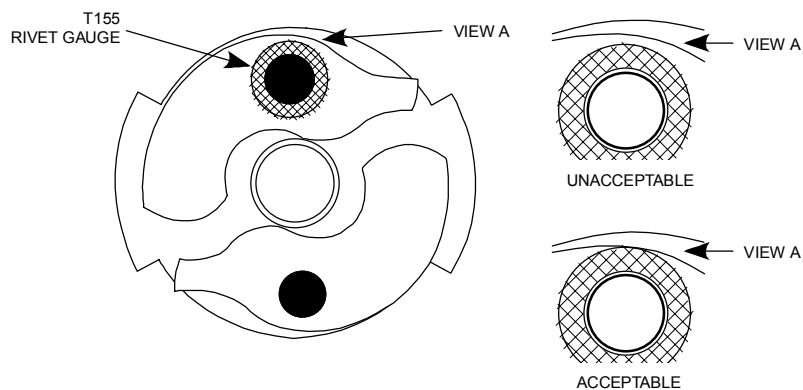

Figure 8.3A
1. Using acceptable procedures, inspect the impulse coupling shell for cracks, rust or signs of corrosion. None of these conditions are acceptable. Replace impulse coupling (5) as necessary.
2. Inspect the impulse coupling hub for cracks, rust, or signs of corrosion. None of these conditions are acceptable. Minor cleaning to remove surface rust is acceptable. Replace impulse coupling (5) as necessary.
3. Inspect the hub shaft and keyway for deformation or damage. Replace impulse coupling (5) as necessary.
4. Inspect impulse coupling pawls. If the latching end that contacts the stop pin in the magneto frame is rounded, peened, or excessively worn, replace the impulse coupling (5).
5. Inspect pawl retaining rivets. If the rivets are loose or show indications of movement, replace the impulse coupling (5).
6. Install the T155 Rivet Gauge over the rivet head. (See Figure 8.3A.)
9. If the edge of the pawl is visible beyond or can be felt to extend beyond the edge of the T155 Rivet Gage, then replace the coupling. (See Figure 8.3A.)